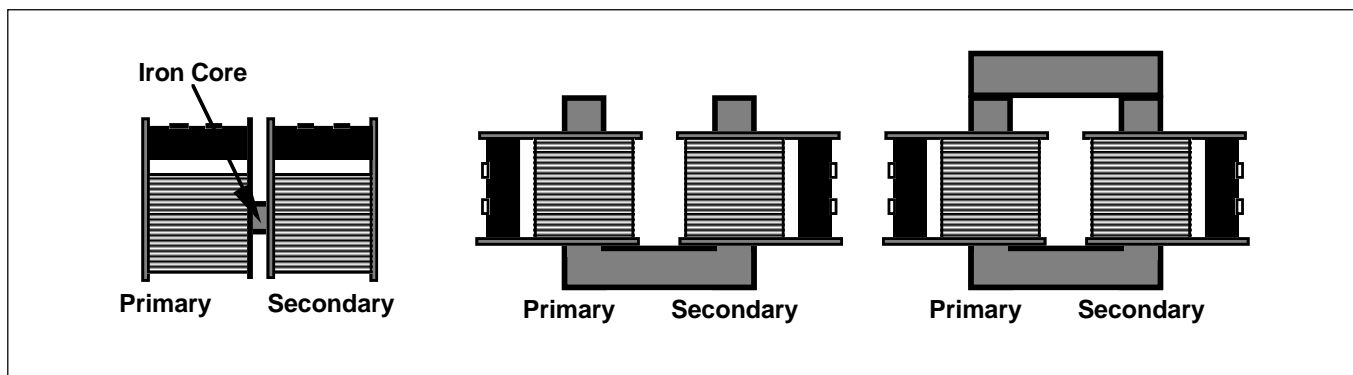

Figure 2
3. Repeat step 2 after inserting the straight cross piece from the top of the U-shaped core. Record your results. (See Figure 2.)